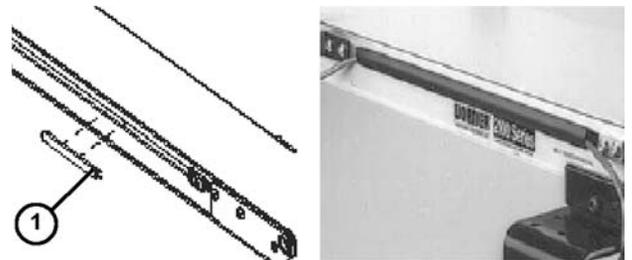

**Figure 13**
2. Attach photo eye assembly (**Figure 13, item 1**) to conveyor with screws (**Figure 13, item 2**).